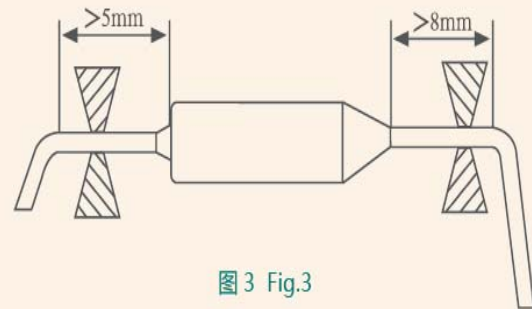

图 3 Fig.3
- 环氧树脂封装端的引出线若需折弯使用，请在距离环氧树脂部位 8mm 以外进行，以免损坏绝缘子，另一端的引出线的折弯，在距离外壳 5mm 以外进行。折弯时，请一边固定引出线（环氧树脂部位不施加力）一边折弯。（见图 3）
- When bending leads, secure the leadwire near the body of TCO, at least 8mm should be maintained between epoxy seals and lead bents and at least 5mm for the lead on the other side. (see Fig.3)